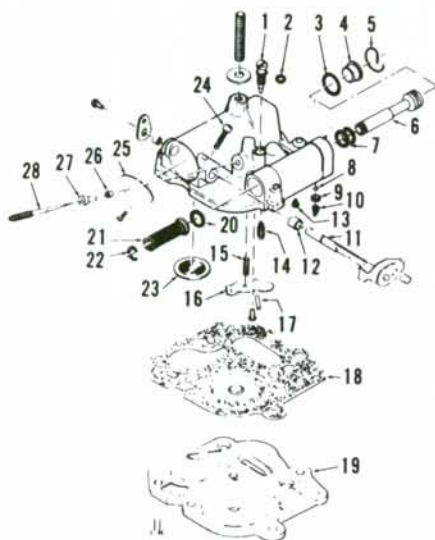
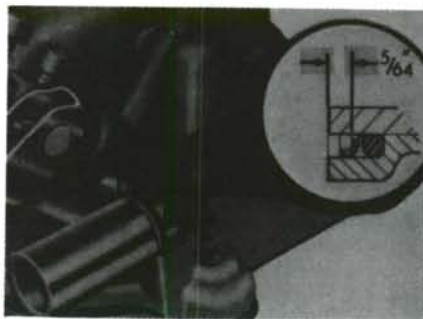

Fig. MC6-5—Exploded view of later McCulloch Model "W" series carburetor. Refer to Fig. MC6-4 for view of early model.
Fig. MC6-6—Some early McCulloch "W" series carburetors have a seal cup which must be installed 5/64 inch (1.98 mm) inside primer bore as shown above.
McCulloch series "W" carburetor was manufactured as two different models. Early model is shown in Fig. MC6-4 and later model is shown in Fig. MC6-5. On early models, fuel is metered by an adjustable needle valve attached to the throttle shaft. On later models, this only adjusts idle mixture. High speed operation on early models is controlled by an adjusting screw which determines throttle plate opening. Later models utilize a fuel needle for high speed adjustment. Both models use a primer plunger for choking operation. Choking on early models is accomplished by forcing fuel past needle valve into the carburetor bore. Later models force fuel from a chamber into the carburetor bore.
have a cup to retain "O" ring (25). Install cup 5/64 inch (1.98 mm) from end of primer housing bore as shown in Fig. MC6-6. Two types of primer plungers have been used on the carburetor shown in Fig. MC6-5. The rear groove of the plunger is 0.090 inch (2.29 mm) or 0.120 inch (3.05 mm) wide as shown in Fig. MC6-7. An "O" ring is used in the narrow groove while "V" packing is used in the wide groove as a service replacement.
Now turn screw (1) clockwise until throttle butterfly (4) starts to close, then turn the high speed mixture screw two turns counterclockwise. On later models, initial adjustment of main fuel needle (1—Fig. MC6-5) is one turn. Do not attempt to adjust throttle plate opening.